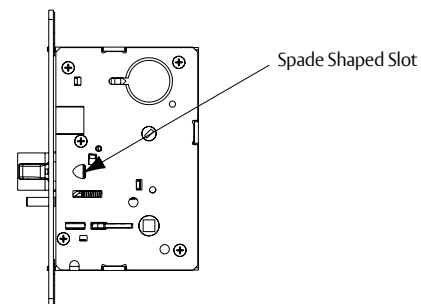

Figure 13
1. Insert flat blade screwdriver into spade shaped slot. (Figure 13)